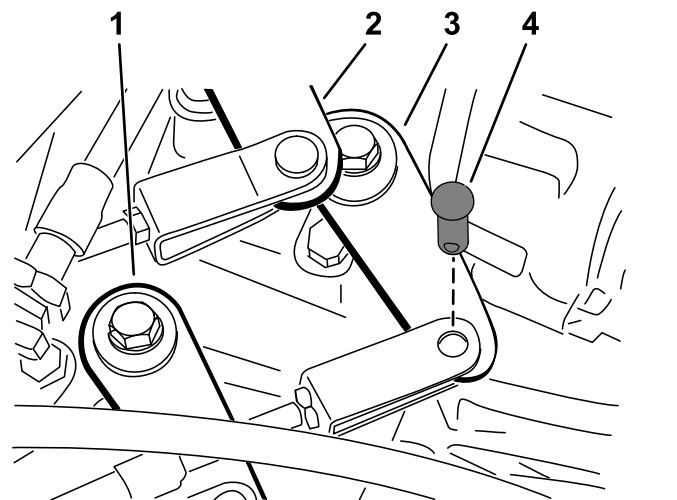

Figure 45
2. Remove the clevis pins securing the shift cables to the transaxle-shift arms (Figure 45).
1. Remove the clevis pin securing the high-low cable to the transaxle (Figure 45).